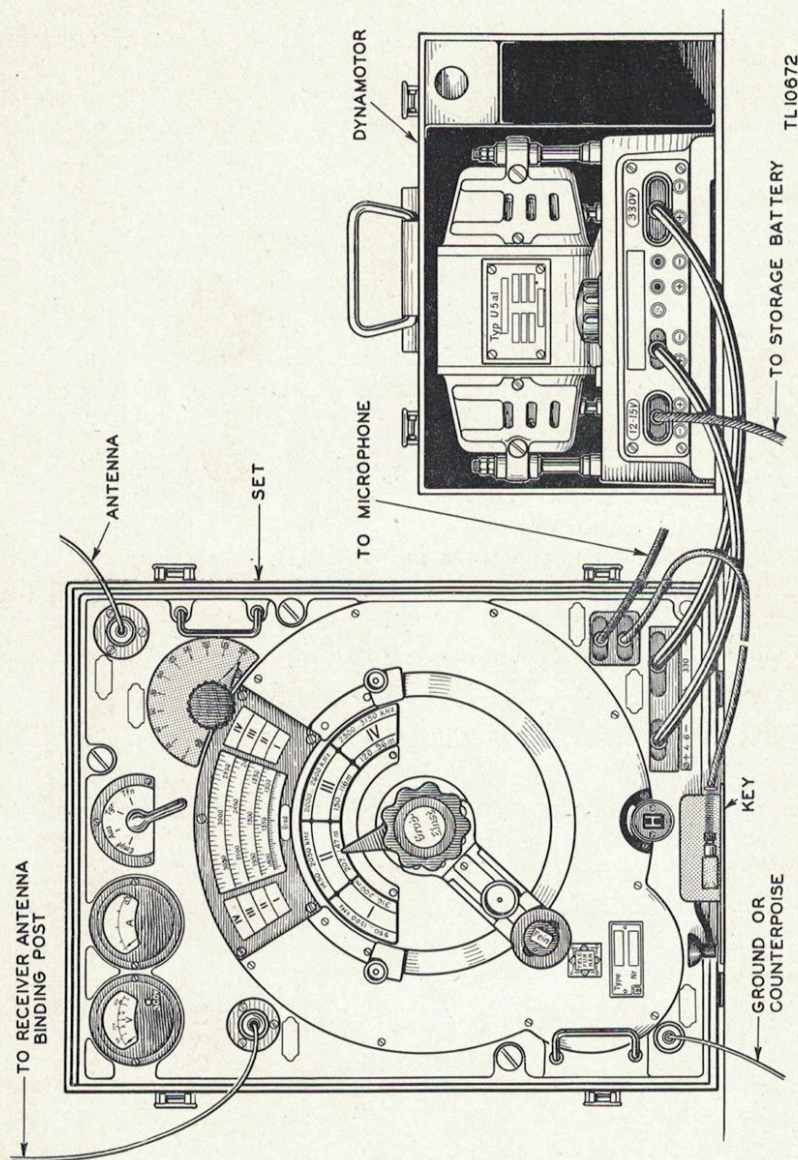

Figure 7. German radio transmitter 5 W.S./245-104 and German dynamotor U5a1, set up for operation.
the set is operating, plug the filament cord from the **5 W.S.** into the pair of jacks marked **Sammler** (storage battery). Series resistors in the base of the unit adjust the **Heizspannung** (filament voltage) to the correct value for the type of operation used. A **Stromrelais** (relay) in the base of the dynamotor **U5a1**, which is in series with the tube filaments in the transmitter, turns the dynamotor on when the main switch on the **5 W.S.** is turned to **Tgr.** (cw) or **Tfn.** (voice). The **Drehknopf** (rheostat) on the base of the unit can be used to vary the high-voltage output of the dynamotor **U5a1** from 300 to 330 volts. Figure 5 shows the location of the maintenance kit which contains spare fuses, low- and high-voltage brushes, and commutator cleaning equipment. The cording for connecting the dynamotor **U5a1** to the **5 W.S.** is shown in a typical set-up in figure 7.
- (1) Set the main switch to the **Aus** (off) position.
- (2) Connect the **12-15V** input terminals on the dynamotor **U5a1** to the 12-volt storage battery.
- (3) Connect the filament cord from the **5 W.S.** to the pair of jacks on the dynamotor **U5a1** marked **Lademaschine** (battery charger). (Refer to fig. 7.)
- (4) Connect the high-voltage cord from the **5 W.S.** to the **330V** receptacle on dynamotor **U5a1**.
(1) Remove the set from the case (par. **5a**).
(2) Proceed as directed in paragraphs **6b** and **6c(1)**.
(3) Connect the **12-15V** input terminals on the dynamotor **U5a1** to the 12-volt storage battery.
(4) If the set is to be operated from a 12-volt storage battery not under charge, connect the filament cord from the **5 W.S.** to the pair of jacks on the dynamotor **U5a1** marked **Sammler** (storage battery). If the set is to be operated from a 12-volt storage battery which is under charge, connect the filament cord from the **5 W.S.** to the pair of jacks on the dynamotor **U5a1** marked **Lademaschine** (battery charger) (fig. 7). The **Lademaschine LG650** (battery charger LG650) is the type battery charger commonly used by the Germans.
(5) Proceed as directed in paragraph **5c**, steps (4) to (8) inclusive.